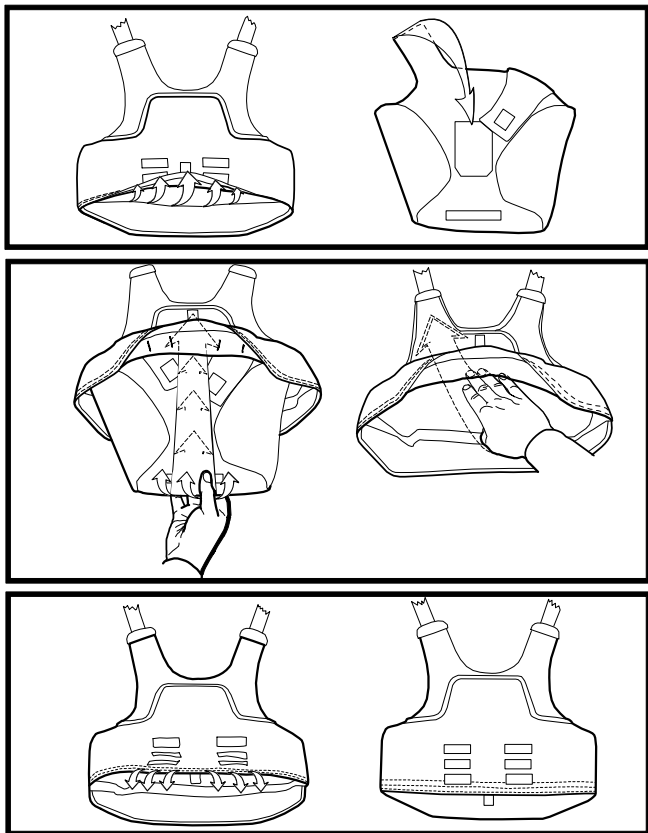

Figure 19. Installing Soft Ballistic Inserts.
- a. Lay the carrier on a flat surface with inner side (or side with label) facing up (Figure 19).